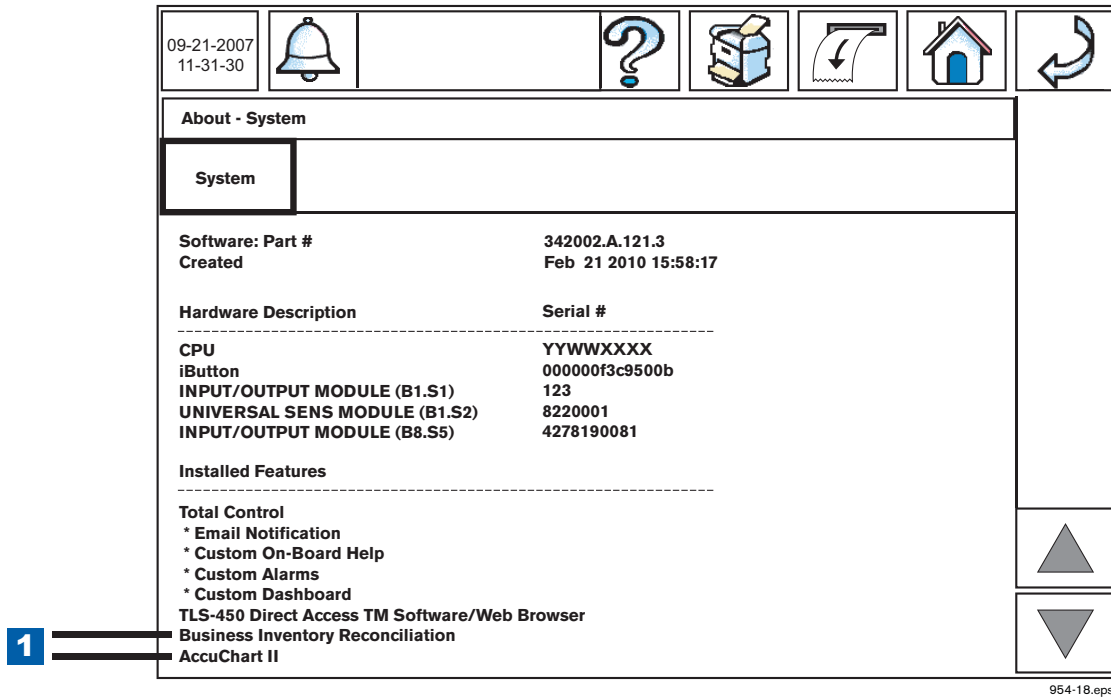

Figure 18. Verifying Installed Software Features
- Verify that the features you installed are listed in the About screen's feature list (see example in Figure 18).
LEGEND FOR NUMBERED BOXES IN Figure 18